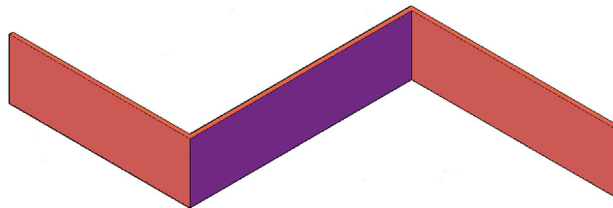

FIGURE 25.1 Basic polysolid.
Step 3. A connected polysolid is drawn every time you click, so do several clicks and press Enter when done, then shade and color the polysolid. You should have something similar to what is shown in Fig. 25.1 on your screen.